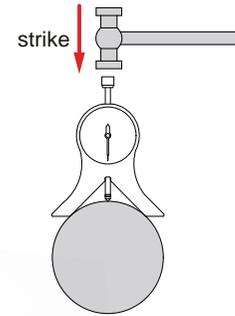

fig.1
- Mount the locator onto the cylindrical workpiece, ensuring the magnetic base firmly adheres to the workpiece. Gently strike the punch to mark the position, and record the angle of the dial in the locator. The dial reading in the illustrated position is 0° (fig. 1).